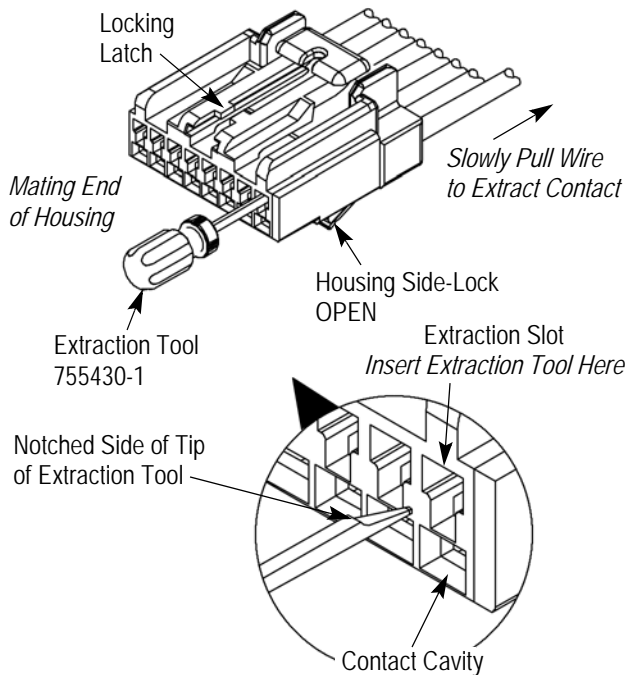

Figure 4
1. Carefully lift the housing side-lock until it is in the pre-lock position (OPEN) (a standard flat-blade screwdriver may be used). See Figure 4, Detail A. *The side-lock must be OPEN before extracting any contacts from the housing.*
2. From the mating end of the housing, insert the extraction tool with the notched side of the tip facing the locking latch straight into the extraction slot (opening closest to locking latch) until it stops. See Figure 4, Detail B. This will release the contact. **DO NOT** force the extraction tool; otherwise, deformation of the contact will occur.
CAUTION TAKE CARE NOT to insert the extraction tool into the contact cavity; otherwise, damage to the contact will occur. See Figure 4, Detail B. Damaged contacts should not be used. If a damaged contact is evident, it should be cut from the wire and replaced with a new one. Contacts must not be reterminated.